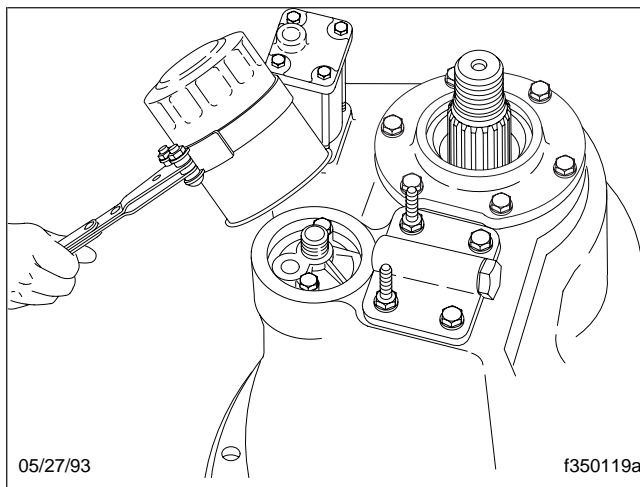

Fig. 6, Axle Oil Filter Removal
- 3.2 Remove the oil filter, using a suitable filter strap wrench. See **Fig. 6**. Discard the filter.